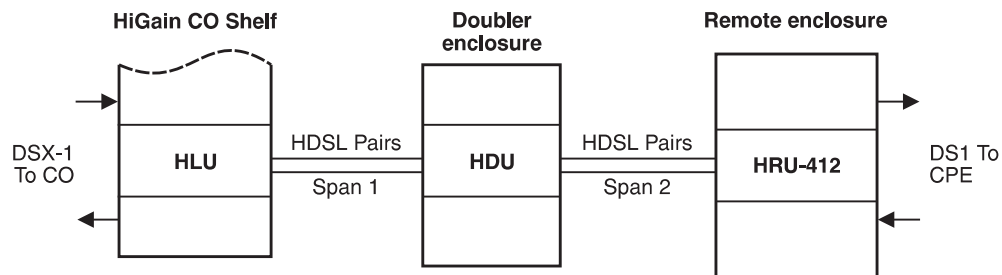

Figure 1. Typical HiGain System
- 1.2** Figure 1 shows a basic HiGain configuration for a T1 High-bit-rate Digital Subscriber Line (HDSL) circuit. The HLU is installed at the Central Office (CO) shelf and the HRU is housed in a remote enclosure at the Customer Premises Equipment (CPE) site. Optional HDUs provide the ability to double or even triple the distance range for customer applications located outside the CSA.